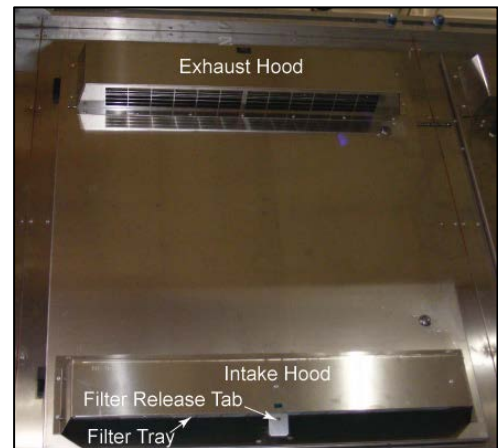

Figure 19: Filter Replacement Details
1. Depress the filter release tab to lower the filter tray. Refer to **Figure 19**.